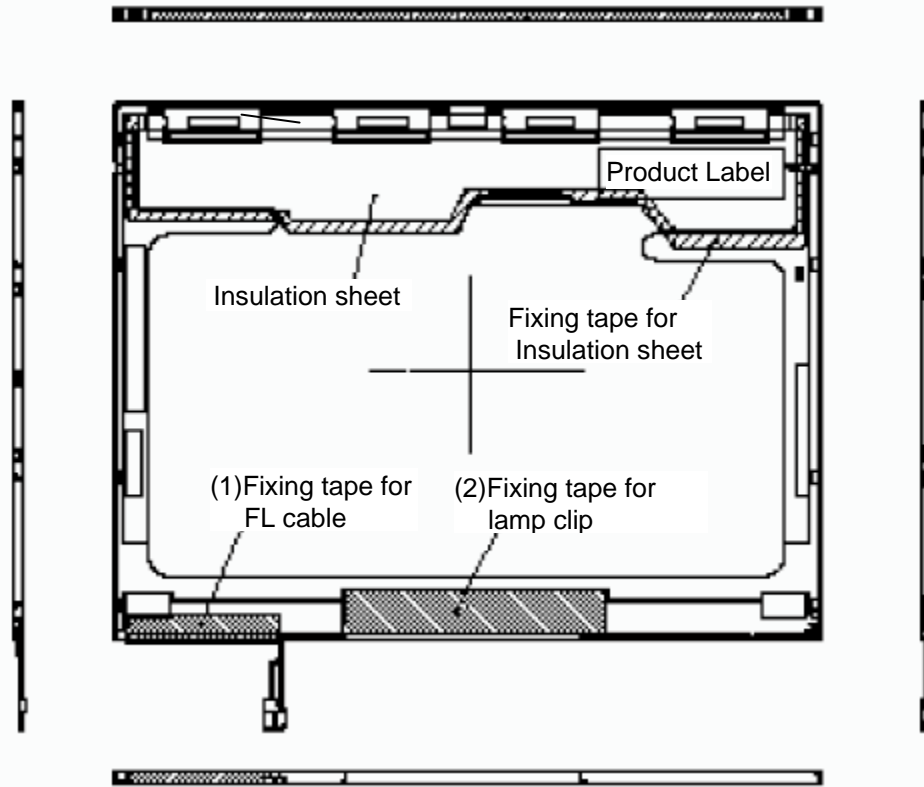

Figure 4-42 Replacing 14.1 Inch TMD fluorescent lamp (XGA) (1)
To disassemble the 14.1-inch XGA TMD fluorescent lamp, follow the steps below and refer to Figure 4-42 to 4-52.
2. In the order (1), (2) shown in figure 4-42, remove the tapes for fixing the FL cable and lump clip.